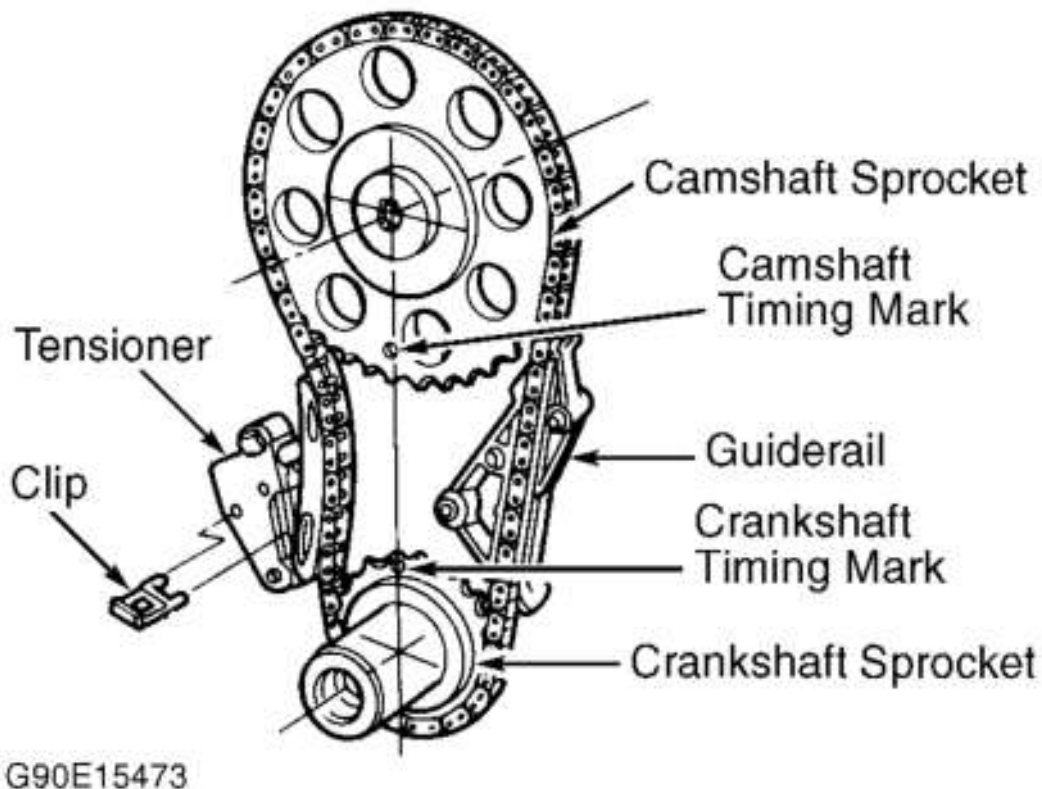
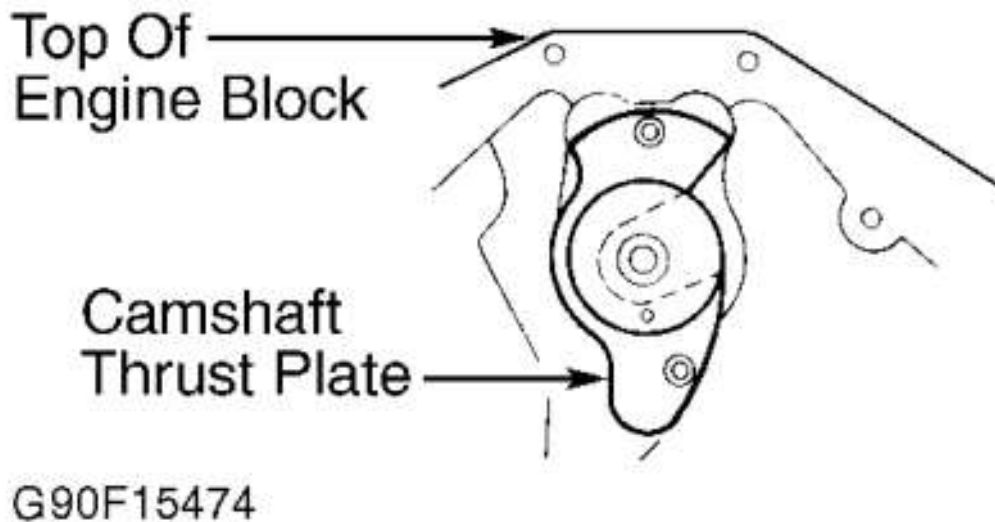

Fig. 5: Identifying Timing Chain & Components
Fig. 6: Installing Camshaft Thrust Plate
2. Ensure all timing marks are aligned. See **Fig. 5**. Check camshaft end play. If end play is not within specification, replace camshaft thrust plate. See **CAMSHAFT** table under ENGINE SPECIFICATIONS.
1. Install guide rail to cylinder block, with pin inserted into oil hole of block. Install 2 tensioner retaining bolts. Ensure timing marks are aligned. See **Fig. 5**. If camshaft thrust plate was removed, install thrust plate so that it covers main oil gallery. See **Fig. 6**.
2. Install crankshaft, camshaft sprocket and timing chain as an assembly. Install tensioner with clip in place to lock tensioner in retracted position. See **Fig. 5**. Install camshaft sprocket bolt and tighten to specification. See **TORQUE SPECIFICATIONS**.
1. Lubricate camshaft lobes and bearing surfaces with Oil Conditioner (D9AZ-19579-CA). Install camshaft carefully to prevent damaging bearings and journal surfaces. Install thrust plate so it covers main oil gallery. See **Fig. 6**.